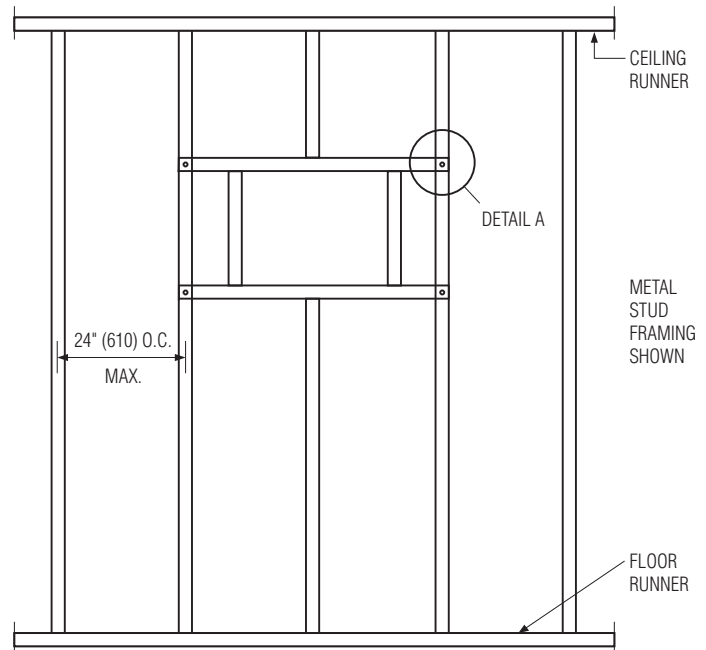

FIGURE 1. SINGLE VERTICAL STUD OPENING PREPARATION DETAILS.
2. Frame wall openings as shown in Figure 1 or 2.
3. Gypsum panels must be screwed to all stud and runner flanges, 12" (305) max. o.c. surrounding opening.
5. UL/ULC wood stud designs require gypsum wallboard filler pieces to be installed around entire opening, screwed 12" (305) o.c. to web of runners and studs, covering all wood stud surfaces.